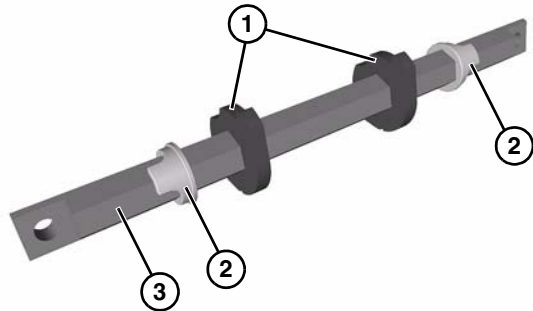

Figure 18
1. Slide stop keys (**Figure 18, item 1**) and tip up sleeves (**Figure 18, item 2**) onto hex shaft (**Figure 18, item 3**). The tabs on the tip up sleeves face outward and align with the slotted ends of the hex shaft as shown.